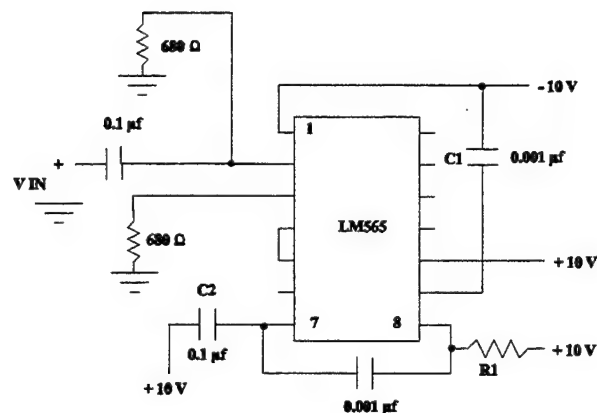

Figure 1
$R_1$ ,  $f_c$ , and  $f_l$  for  $V_{cc} = \pm 10$  volts. Component values can be found on figure 1.
b) Build the circuit shown in figure 1 using your calculated value for  $R_1$ . Measure the actual values of the resistors and capacitors used. Connect a ground bus, a + 10 volt bus and a - 10 volt bus to your breadboard from an HP power supply.
Component values can be found on figure 1.